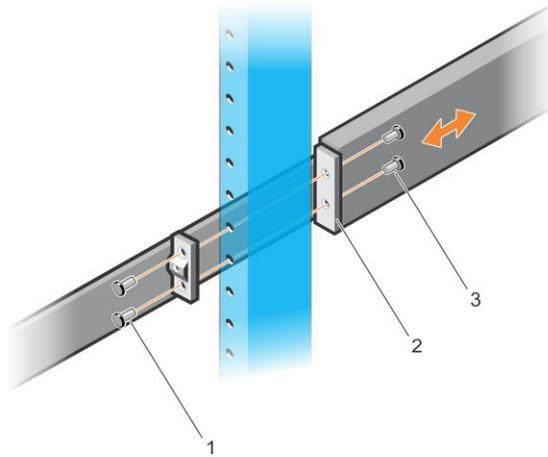

Figure 19. 2-Post Center-Mount Configuration
1. Slide the plunger bracket rearward until it clicks into place and secure the bracket to the front post flange with two user-supplied screws. See item 1 in Figure 19.
2. Slide the back bracket towards the post and secure it to the post flange with two user-supplied screws. See items 2 and 3.